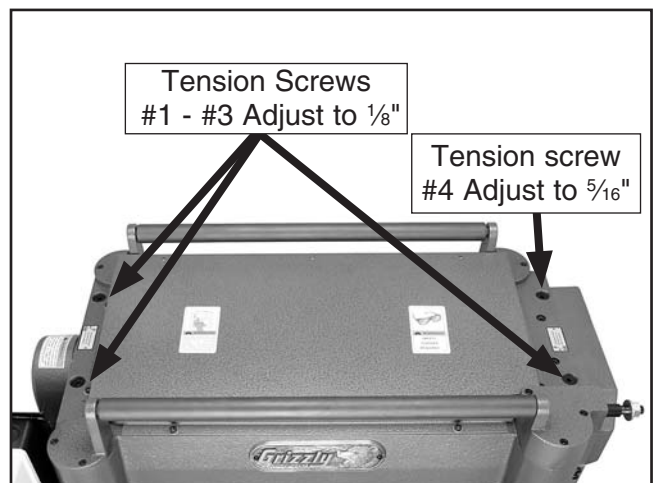

Figure 32. Tension screw locations and adjustments.
1. Locate the four adjustment screws located on the top of the planer, as shown **Figure 32**.